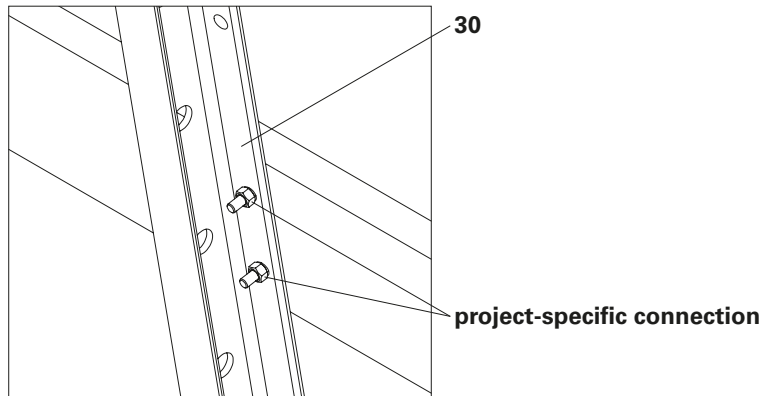
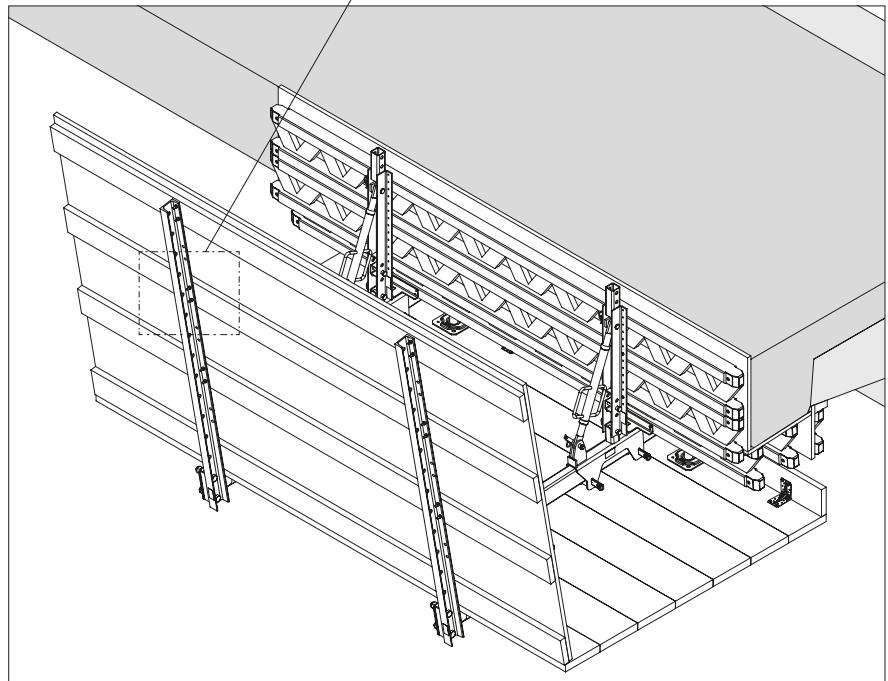

Fig. A1.06b
Fig. A1.06
1. Attach Guardrail Post RCS/SRU 184 (30) to Platform Cantil. Beam VGK 170 (4), AF 30.
2. Screw the enclosure to the guardrail posts. (Fig. A1.06 – Fig. A1.06b)